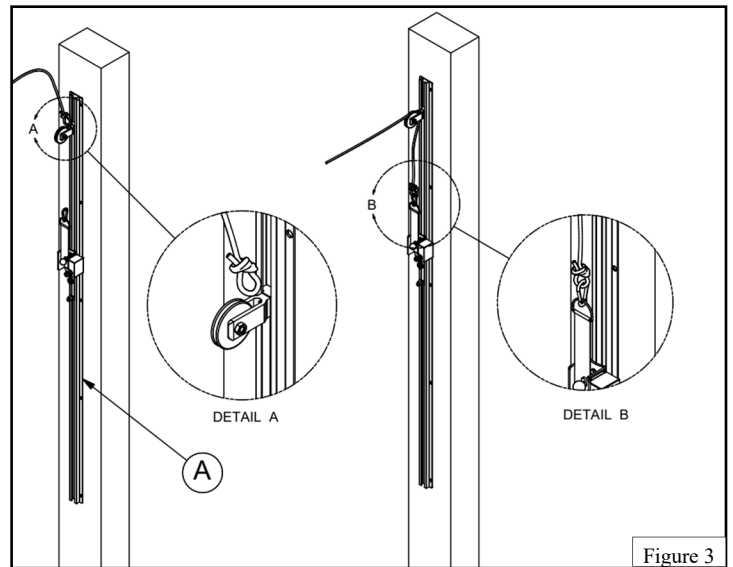

Figure 3
7. Tie a second overhand knot similar to the one on the other end of the top rope at a location that you estimate will allow the top rope of the net to be properly tensioned with the winch for play when the top rope is attached to the winch web strap. This might take some trial and error until you get the knot in the correct location. Note that the knot will need to be neat and tight to be able to slide freely through the space between the rope pulley and the post when installing and removing the net from the posts. Attach the loop formed by the knot to the spring clip on the end of the web strap. See Figure 3.